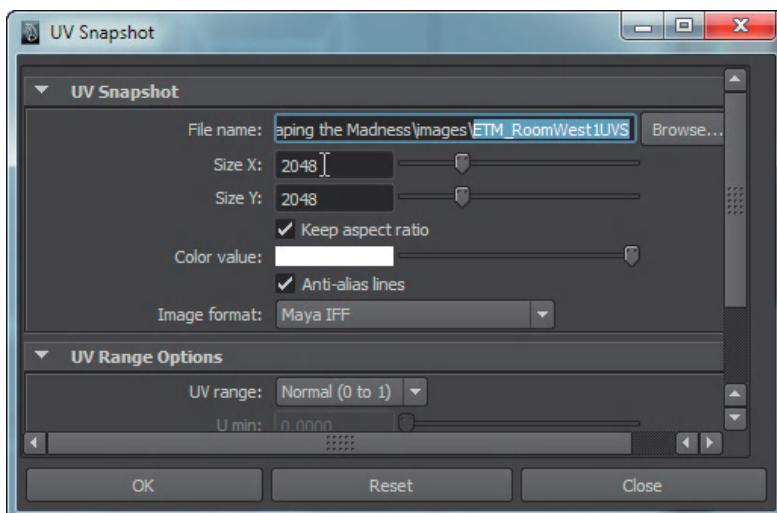

FIG 5.24 Exporting a UV Snapshot.
Step 25: Export the UV Snapshot. In the View Panel, swap to Object mode and select the walls shape. Back in the UV Texture Editor, select Polygons > UV Snapshot. In the resulting dialog box, be sure to change the File Name to ETM_RoomWest1UVS. Change the Size X and Size Y to 2048. Hit OK (Fig. 5.24).